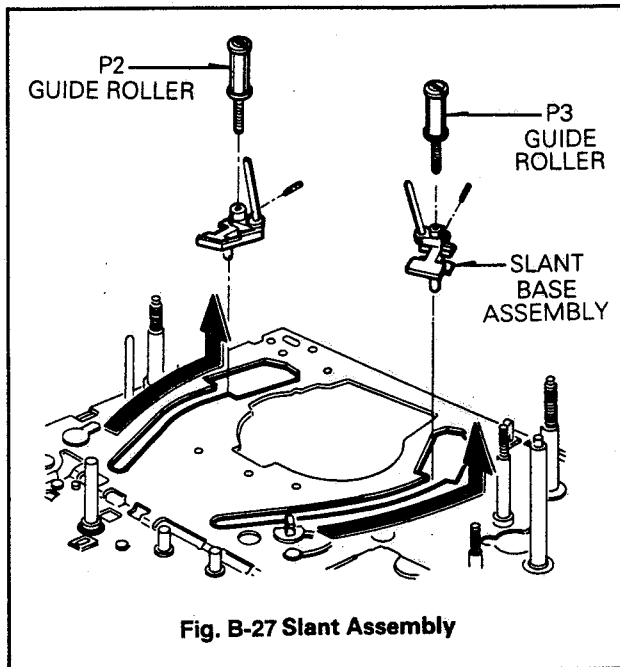

Fig. B-27 Slant Assembly
27. P2 and P3 Slant Assembly (Fig. B-27)